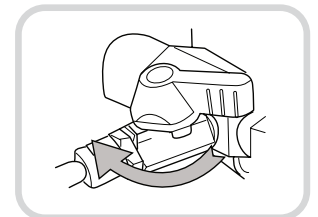
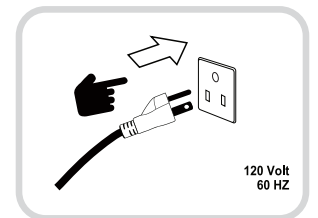

Fig. 13
Fig. 14
11. Open the Water Inlet Valve, connect the power supply (Fig. 13) (Fig. 14) and clean the Filters using the Cleaning Filters Automatically When Replacing Filters function described in page 21.